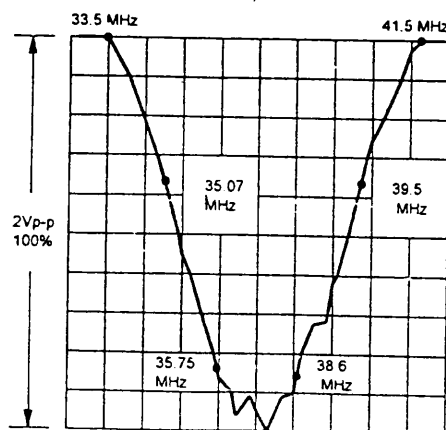

Fig 4.
Preparation Step (see fig 4)
- Adjust tuner converter coil to obtain the waveform as shown in fig 4..